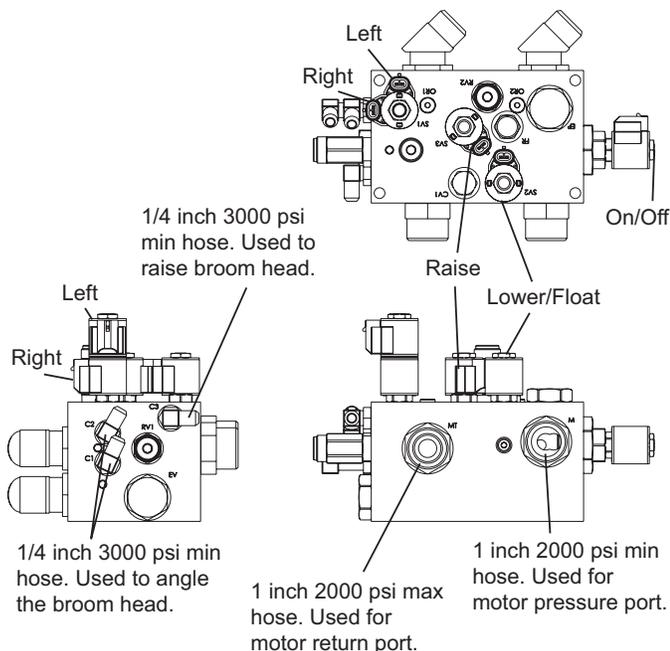

Figure 2
4. Connect hydraulic hoses to attachment. Remove caps and store in safe location for future use or for servicing. Connect hydraulic lines for angle and raise functions as required for use with the specific attachment. Connect hydraulic motor hoses "M" for motor high pressure and "MT" for motor low pressure (return to tank). See Figure 2.